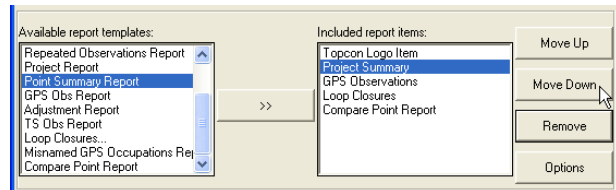

Figure 7-16. Edit Item Columns
3. If adding items, select the items to include in the left column and click the move right (>>) button (Figure 7-16 on page 7-13).
4. If removing items, select the items to remove and click **Remove** (Figure 7-16 on page 7-13).
5. Use the **Move Up** and **Move Down** buttons to order included items (Figure 7-16 on page 7-13).
2. If adding items, select the items to include in the left column and click the move right (>>) button (Figure 7-16).
3. If removing items, select the items to remove and click **Remove** (Figure 7-16).
4. Use the **Move Up** and **Move Down** buttons to order included items (Figure 7-16).